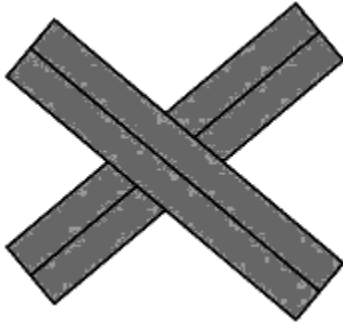

Figure 8 Non-adjacent Segments Touching
- As shown in Figure 8 Non-adjacent Segments Touching, non-adjacent segments may not touch or intersect.